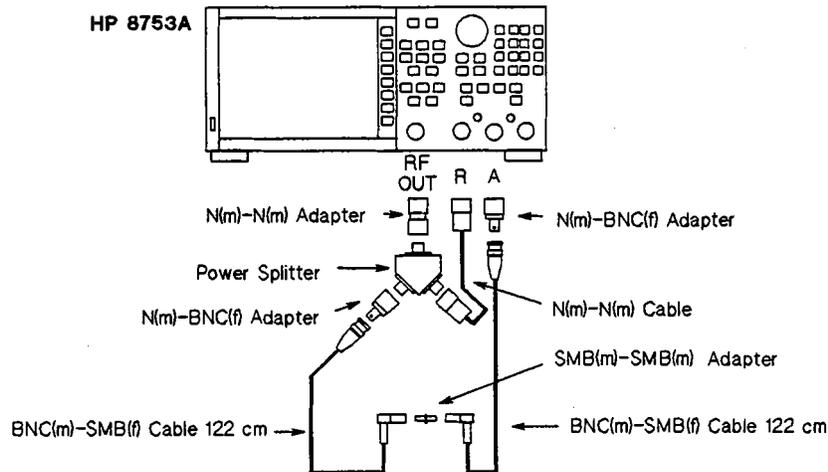

Figure 3-53. Receiver Input Filter Adjustment Network Analyzer Setup
1. Connect the equipment as shown in Figure 3-53.